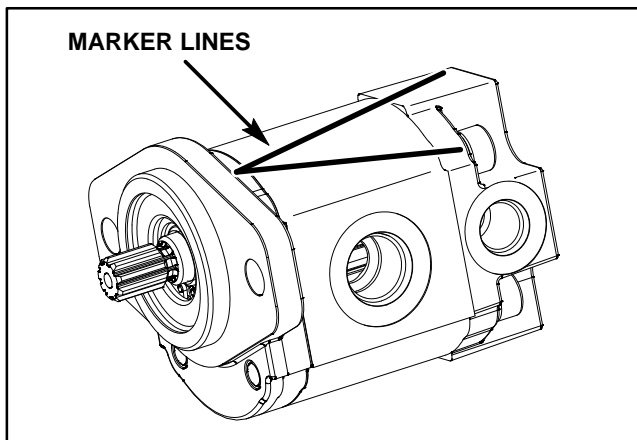

Figure 131
2. Use a marker to make a "V" across the front plate, body and back plate for assembly purposes (Fig. 131).